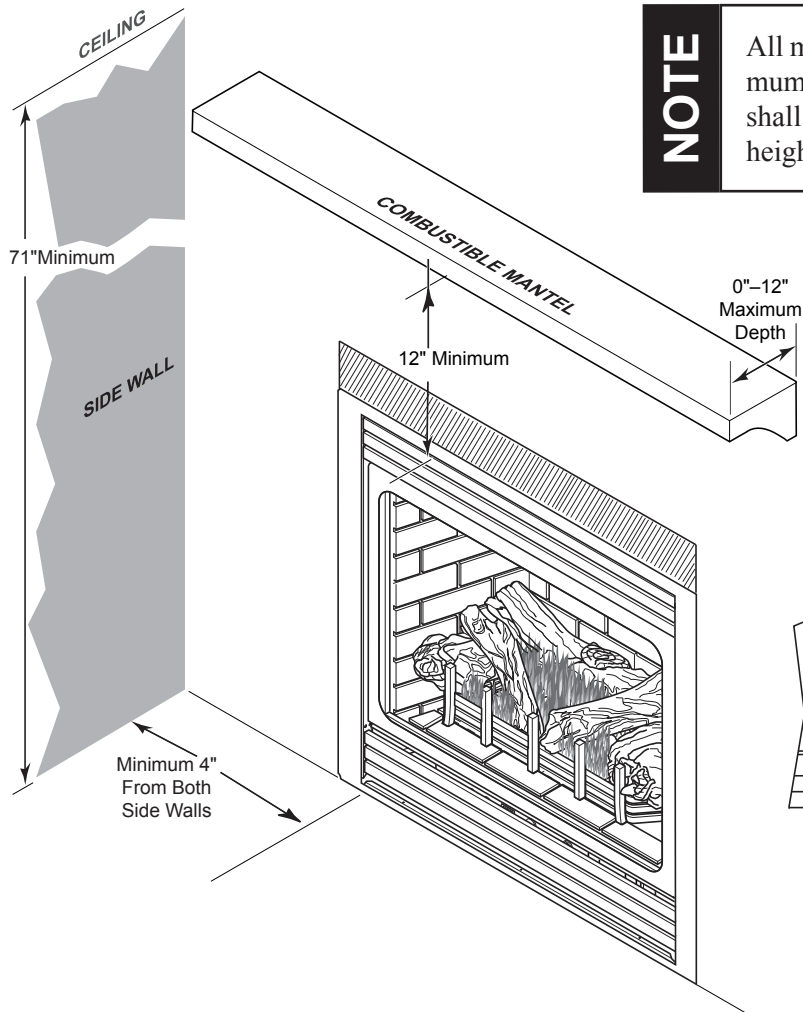

Figure 5 - Clearances
The fireplace must be secured to the floor and/or to framing studs as shown in *Figure 5*. Use two (2) wood screws or masonry/concrete screws to secure fireplace to the floor. Use four (4) screws to attach fireplace to framing. The side nailing flanges are 1/2" or 5/8" to accommodate different wall thickness.